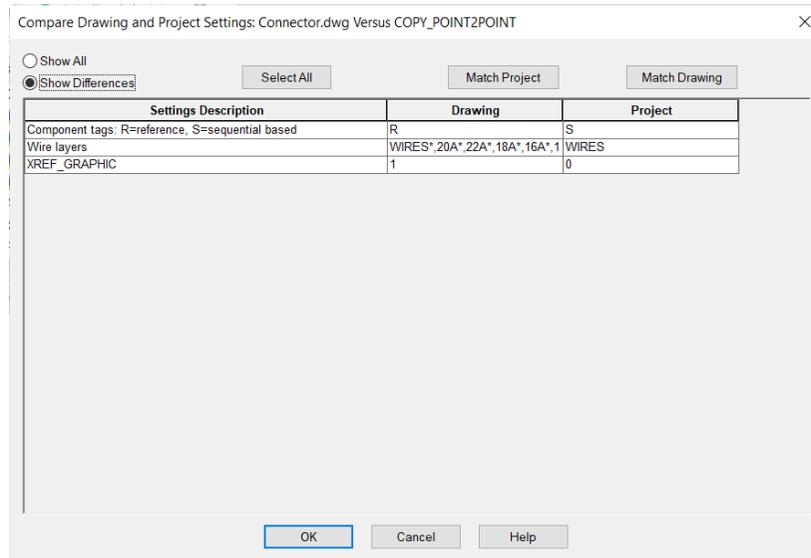

Figure 2-75 The Compare Drawing and Project Settings: DEMO007.DWG Versus COPY_POINT2POINT dialog box
2. Select the **Connector.dwg** from **Copy_Point2Point** in the **Projects** rollout and right-click; a shortcut menu is displayed. Choose **Properties** from the shortcut menu; a cascading menu is displayed. Choose **Settings Compare** from the cascading menu; the **Compare Drawing and Project Settings: Connector.dwg Versus COPY_POINT2POINT** dialog box is displayed, as shown in Figure 2-75.